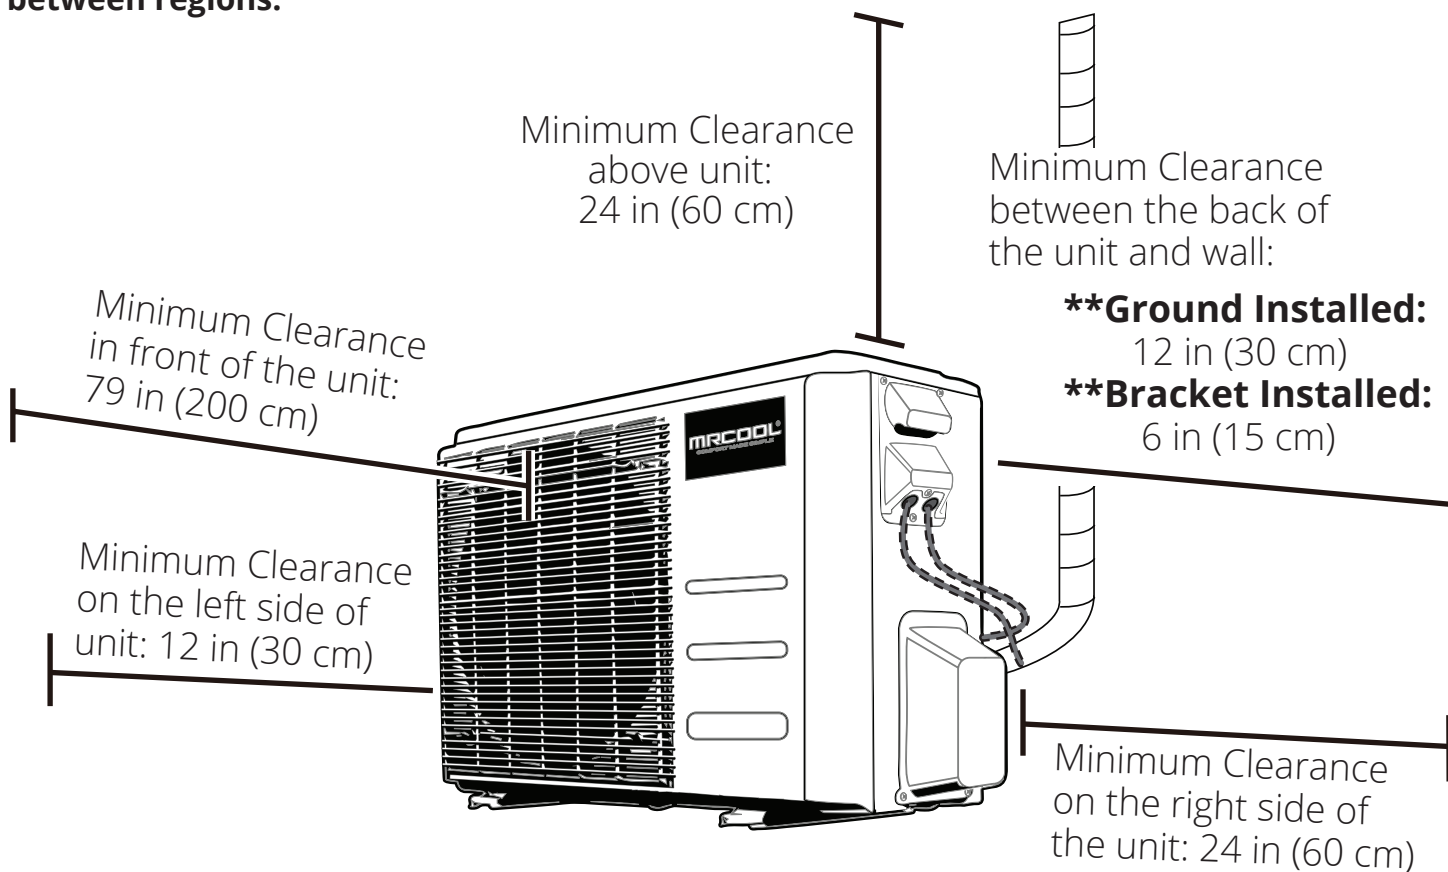

Fig. 6.1
- Meets all spatial requirements shown in the illustration above (Fig. 6.1)